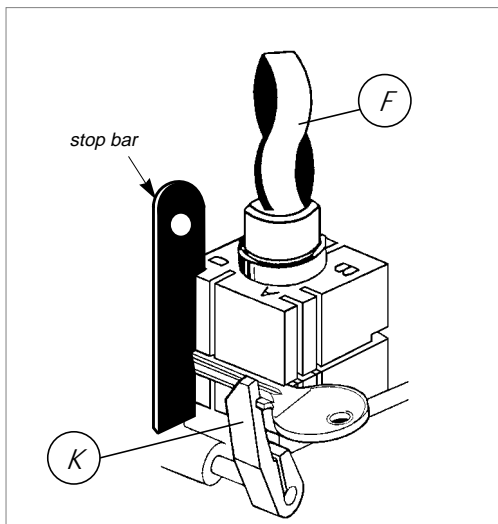

Fig. 15
- b) the key stop butts against the gauge (K) or the key tip is up against the stop bar (fig.15).
- c) close the jaws by turning the knobs (F).